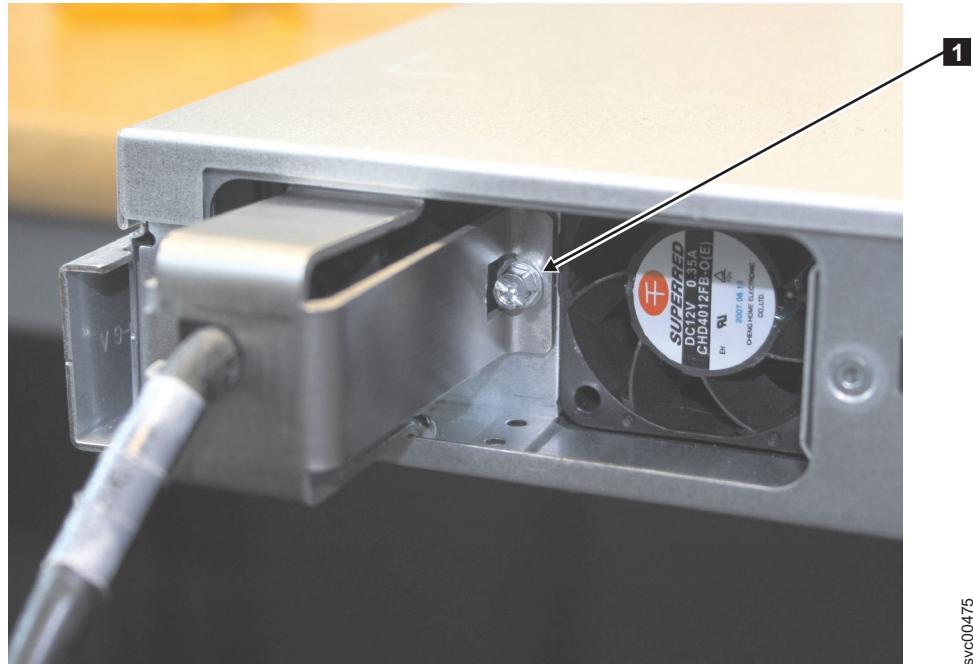

Figure 31. SAN Volume Controller 2145-8A4 with the cable-retention bracket installed
6. Slide the bracket to the left until the side lip of the retention bracket goes behind the screw. Tighten the screw shown in Figure 31 on page 33.